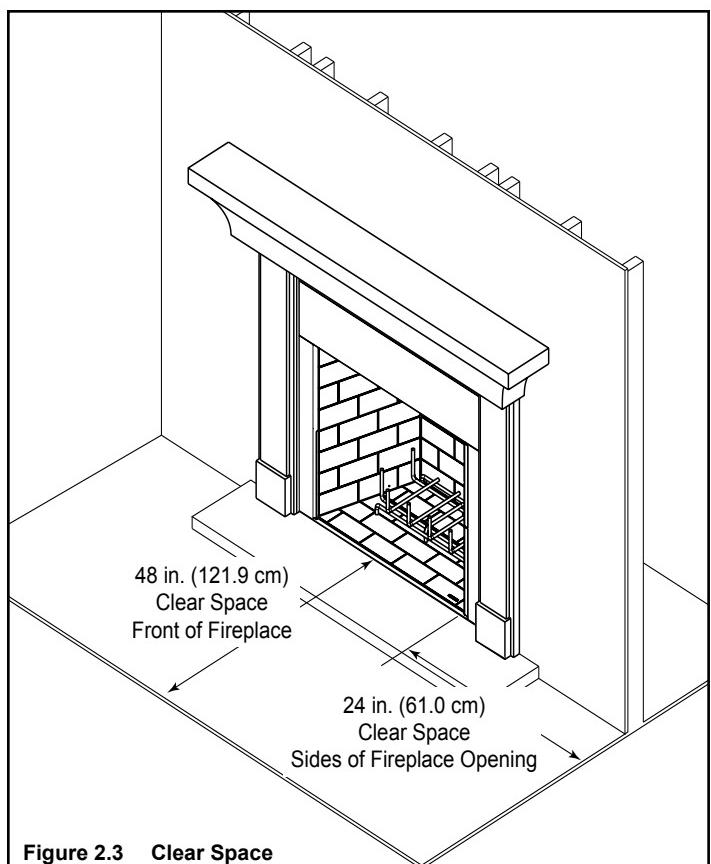

Figure 2.3 Clear Space
- **DO NOT** place combustible objects within 48 in. (121.9 cm) of the front of fireplace. See Figure 2.3.